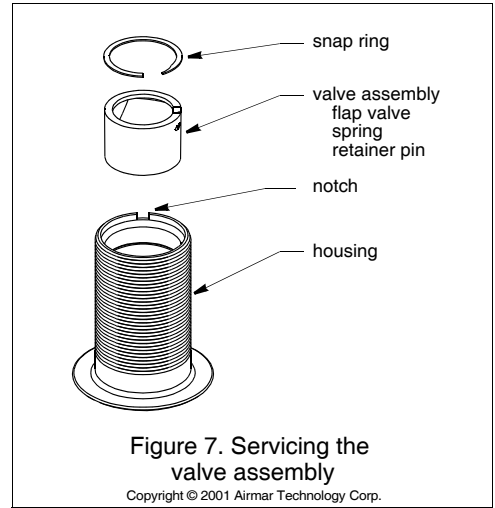

Figure 7. Servicing the valve assembly
3. Screw the hull nut in place being sure the notch on the upper rim of the housing and the arrow on the flange are still positioned forward toward the bow (see Figure 7).
3. Remove the snap ring from the valve assembly using a screwdriver to pry the end of the ring free. Lift the ring out (see Figure 7).
7. To reinstall the valve assembly, first reassemble the flap valve in the valve housing with the retainer pin and spring in place (see Figure 7).